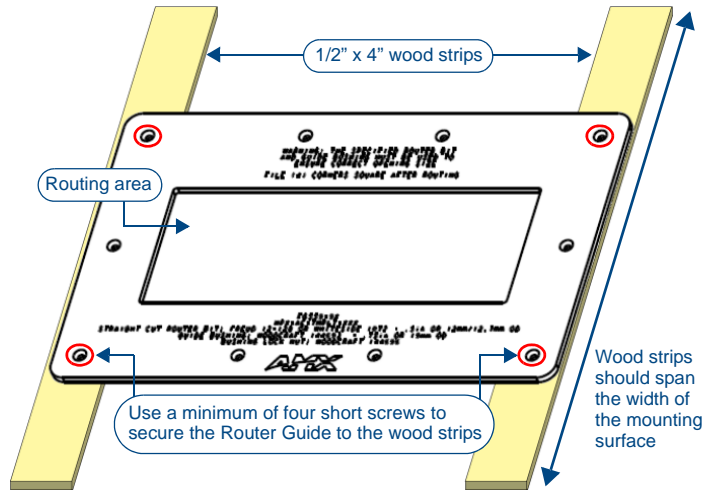

FIG. 5 Securing the router guide
2. Use four or more short lock nut screws to secure the router guide to the wood strips (FIG. 5):